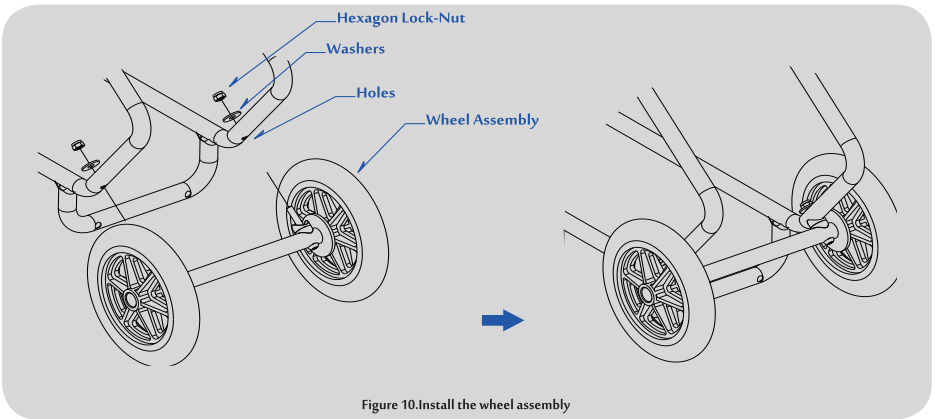

Figure 10. Install the wheel assembly
***5. Install the wheel assembly (See Figure 10)***